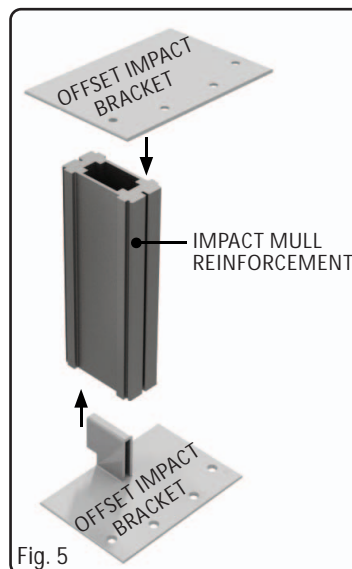

Fig. 5
- Place the offset impact brackets into the end of the impact mull reinforcement as shown in (Fig. 5). The offset part of the bracket faces the exterior.
- (Fig. 5) Insert one offset impact bracket into each end of the impact mull reinforcement.
- Slide the offset impact bracket into the impact mull reinforcement (if using *Mull Option 1*) (Fig. 5) on the previous page.